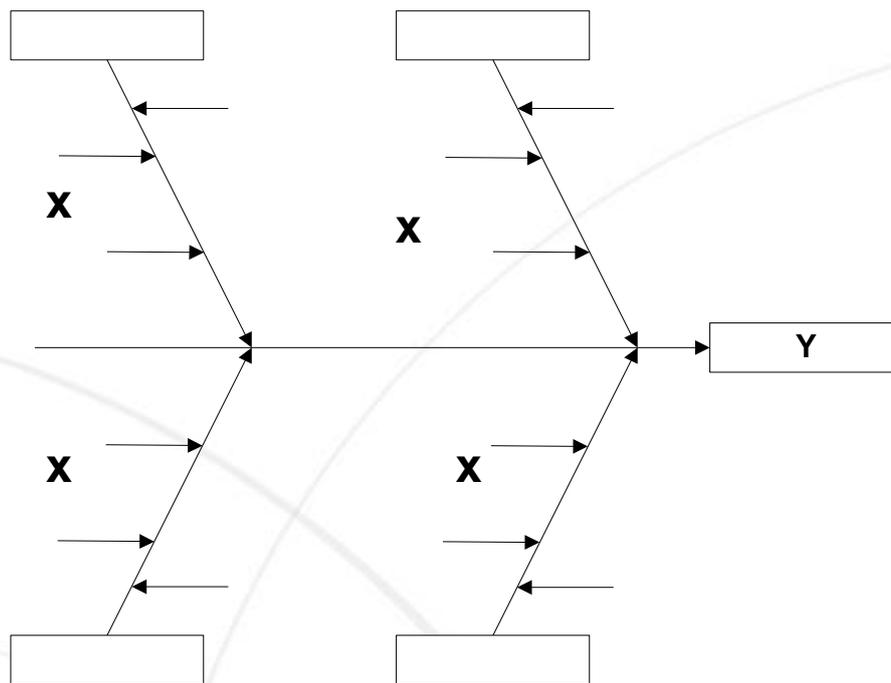

FIGURE 1. A FISHBONE SKELETON
Just like any process with input (X) and output (Y) variations, we can apply the same principle of X and Y to the fishbone model: the "effect" or problem is the Y, and the possible root causes that appear on the "bones" are the Xs. See Figure 1.